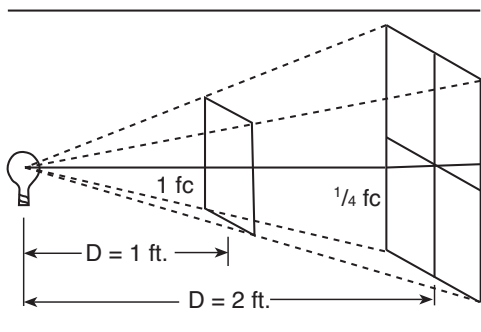

Figure 1
The candela is the unit of intensity (I) and is analogous to pressure in a hydraulic system. It is sometimes called "candlepower" and describes the amount of light (lumens) in a unit of solid angle. This unit of solid angle is called the steradian. It will be seen from Figure 1 that as the light travels away from the source the solid angle covers a larger and larger area; but the angle itself remains the same, as does the amount of light it contains. Intensity therefore, in a given direction is constant regardless of distance. **See Figure 1**